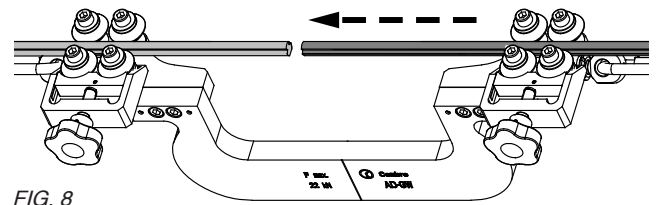

FIG. 8
- 7** (Ref. fig. 8) Use the Tirfor to bring the ends of the contact wires together.